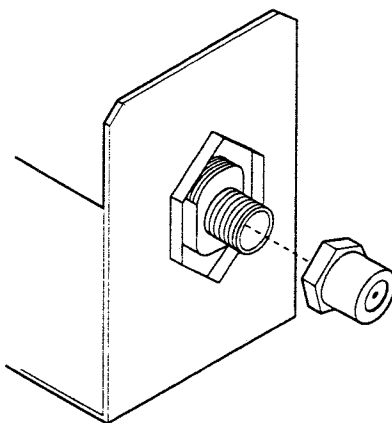

Figure 18
To derate this unit, order and install the appropriate high altitude orifice kit per the chart below. Remove two (2) screws found at the base of the burner tray and remove the burner tray with tube. Use care to prevent damage to the air shutter adjustment rod. Remove the orifice (*Figure 18*) and replace with the appropriate one from the kit. Refer to the following chart. Be sure to attach the conversion sticker provided with the kit to the rating plate on the appliance.
Step 5. Unscrew the orifice from the manifold and replace it with the one provided with the kit: (.094) for natural gas units and (.057) for propane (*refer to Figure 18*).